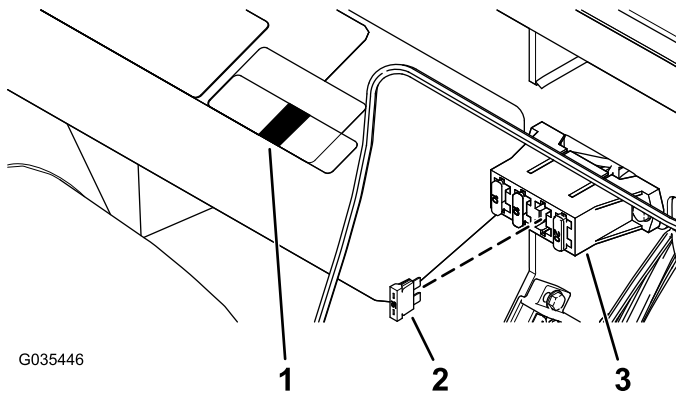
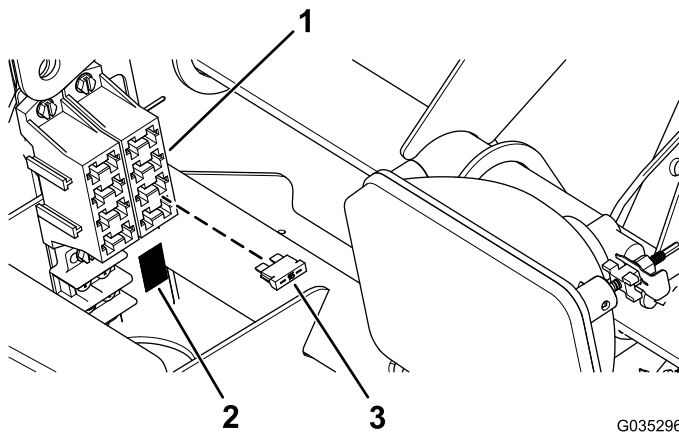

Figure 10
Figure 11
1. Insert the fuse (15 A) into the fuse block and apply the fuse decal beneath the fuse block (Figure 10 or Figure 11).